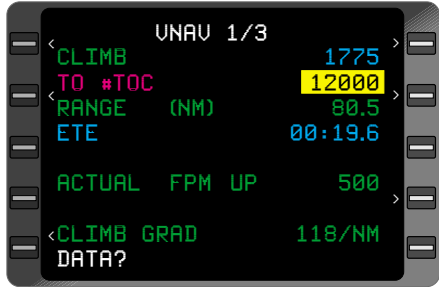

Figure 3-139
2. Line Select Key - DEPRESS to position the cursor over the **#TOC** altitude field. (Figure 3-139)